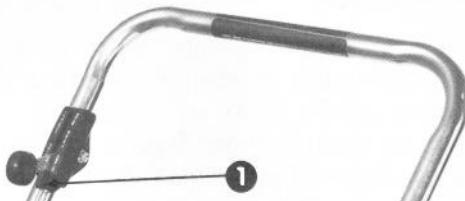

Figure 13
2. Move drive control into DISENGAGE **detent** (self-propelled model) and throttle control forward to position No. 1 (Fig. 13).